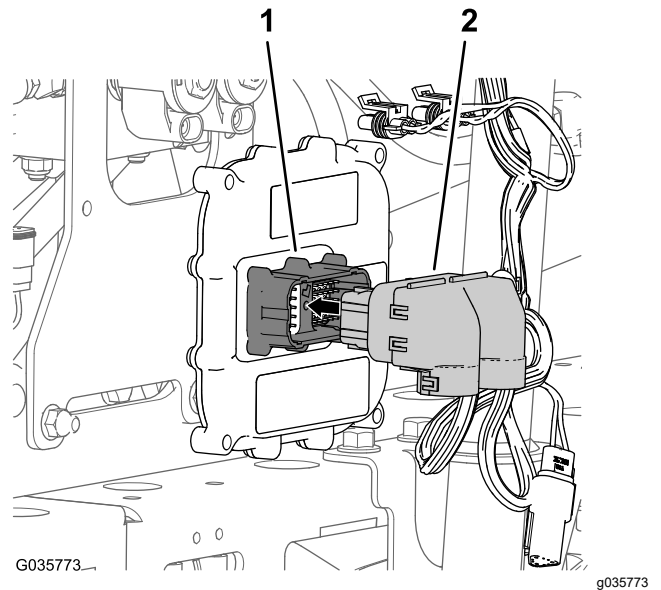

Figure 28
2. Connect the 50-socket connector of the wire harness for the sonic boom to the 50-pin connector of the electronic controller, and secure the connectors with the socket-head screw (Figure 28).